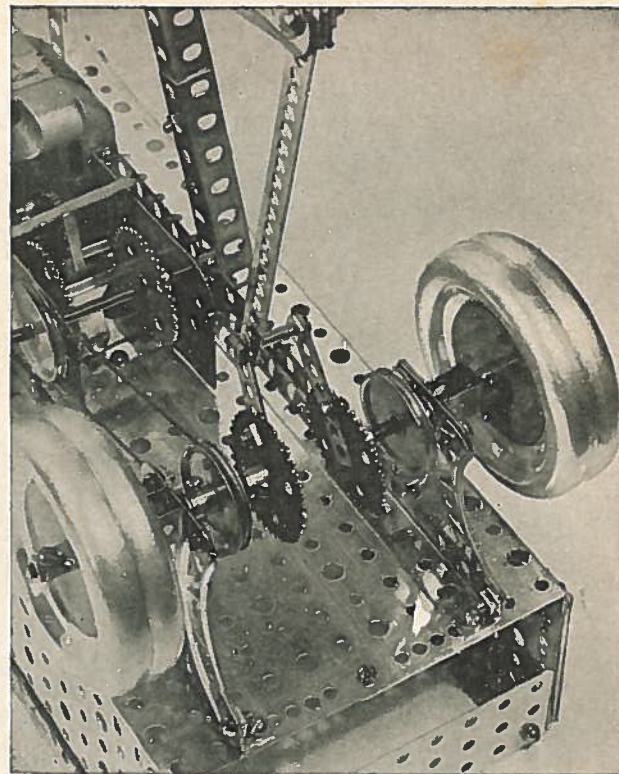

FIGURE 2
It is best to build this model as well as all other models from the bottom up. The base for this model is shown in Figure 1. The sides are each (MN) 12" base plates, the top is made from 2 (MN) 12" base plates. In Figure 2, you will see an (MF) 1" x 5" base plate fastened on the end to the sides of the base with (CH) right angles. On each side of the base is fastened an (A) 2½" girder and 2 (C) 10" girders.
In Figure 2 you will see a detail of the flywheel assembly. To the (DP) 12" angle girders are fastened 4 (D) 2½" curved girders. Across the top of these curved girders is fastened an (F) 5 hole strip and (P20) 5 hole strip—formed. On each side there are (AS) 27/8" axles on which are fastened the 2 (MH) 3" disc wheels, P7 pulley and the (CJ) 36 tooth gear. On each 36 tooth gear is fastened a (G) 7 hole strip which is used as the eccentric arm to make the beam move in a see-saw fashion.